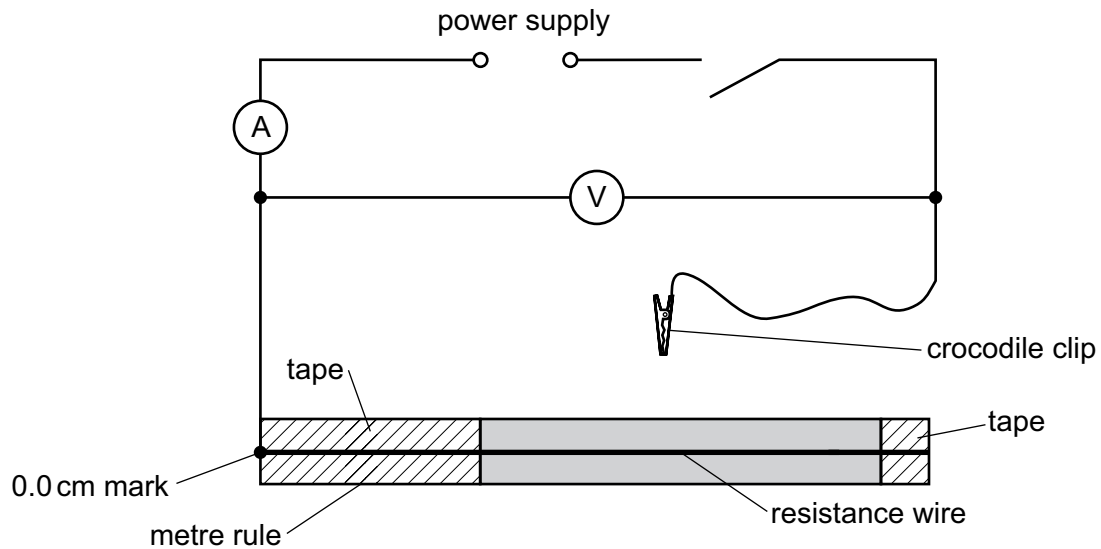

Fig. 2.1
- (vi) Sufficient connecting leads to set up the circuit shown in Fig. 2.1.
- 2 The circuit is to be set up for candidates as shown in Fig. 2.1, with the crocodile clip not connected to the wire.
Ensure that the circuit is connected as shown in Fig. 2.1.